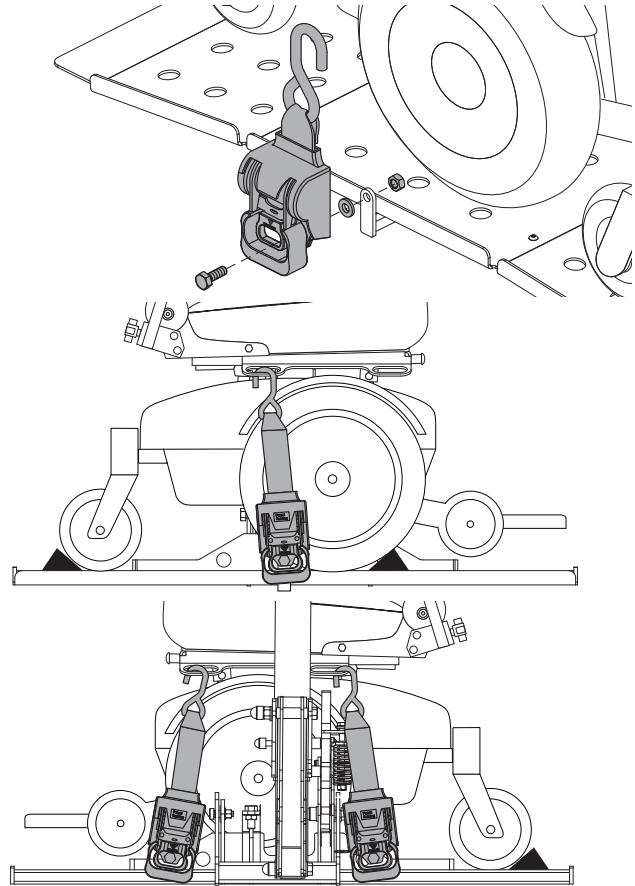

Figure 4-15
2. Align the meeting position on strap to the desired mounting point hole on the full platform. *See Figure 4-15.*